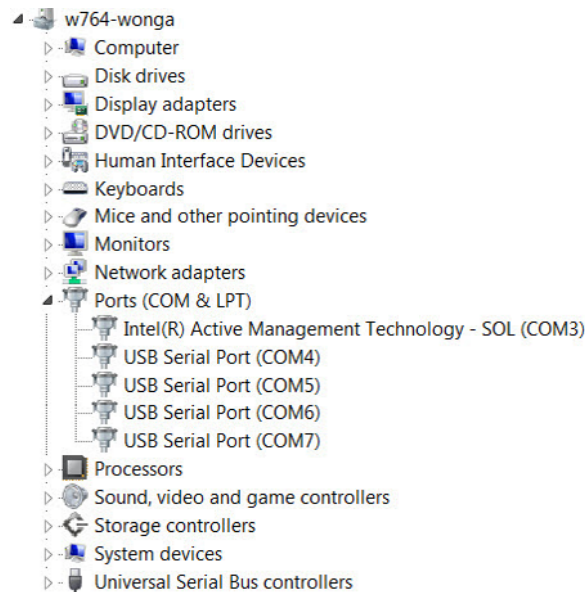

Figure 6-4 • Device Manager Listing USB Serial Port
2. If the USB Serial Ports are automatically detected (displayed in Device Manager), as shown in Figure 6-4, it means that the USB-UART driver is already installed on your PC. Four consecutively numbered COM ports are listed (COM 4 through COM7, as in Figure 6-4). For your PC, the four COM port numbers may be different.
5. Choose the appropriate COM port (to which USB-RS232 drivers are pointed) from the **Connect using** drop-down list and click **OK** (Figure 6-6). Different systems may show different COM Port#. Choose the highest COM port displayed (COM7 in this case, as displayed in the Device Manager in Figure 6-4)..